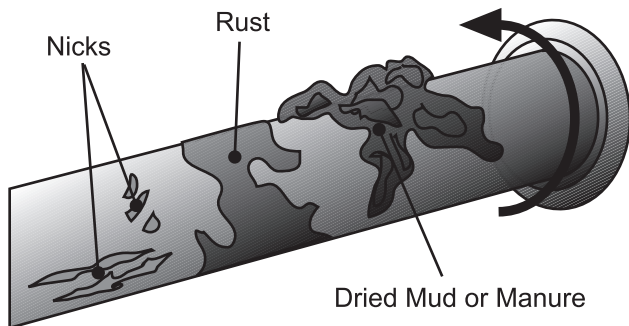

Figure 3. These conditions can cause clothing to wrap around a PTO driveline.
- **Wrap (entanglement) point** hazards pertain to any exposed rotating component. Wrap-point hazards include any type of rotating shaft or driveline. PTO drivelines are prime examples of wrapping or entanglement hazards (Figure 3).